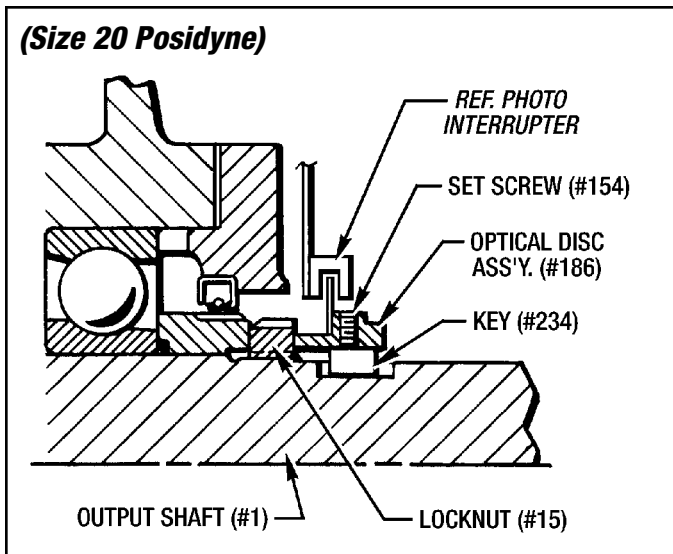

Figure 6.8 - Optical Disc and Hub Positioning (Size 20 Posidyne)
- Slide the Optical Disc Assembly (#186) onto the output shaft until it butts up against the Locknut (#15) as shown in Figure 6.8 below.